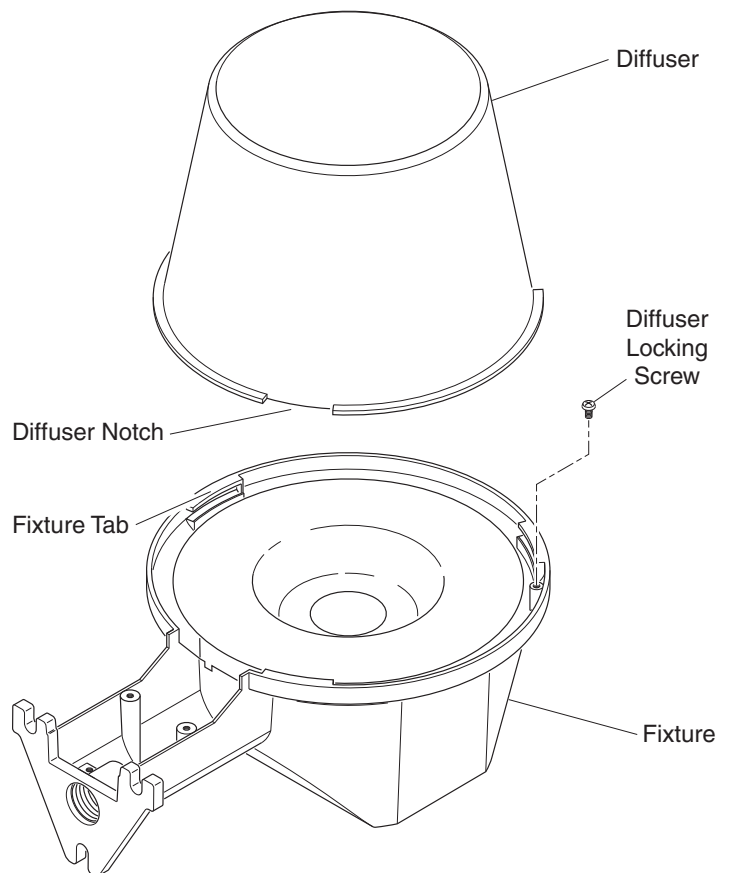

Figure 1
2. Remove diffuser locking screw from fixture (see Figure 1).
3. Align the notches in the diffuser with the tabs on the fixture and place the diffuser on the fixture (see Figure 1).
4. Rotate the diffuser clockwise until the diffuser stops (see Figure 1).
5. Install locking screw removed in step 2 (see Figure 1).
2. Remove diffuser locking screw and diffuser (see Figure 1).